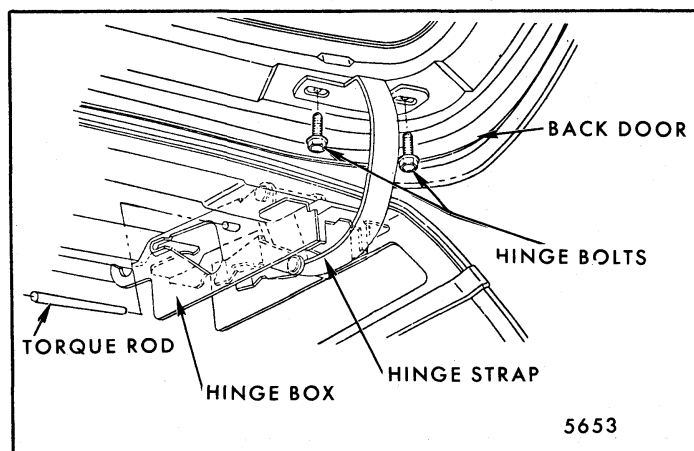

Fig. 7-75-Back Door Hinge Attachment - "H-15" Styles
1. With the assistance of a helper to support door in full-open position, remove hinge strap to back door attaching bolts (Fig. 7-75) on both sides of door and remove back door.